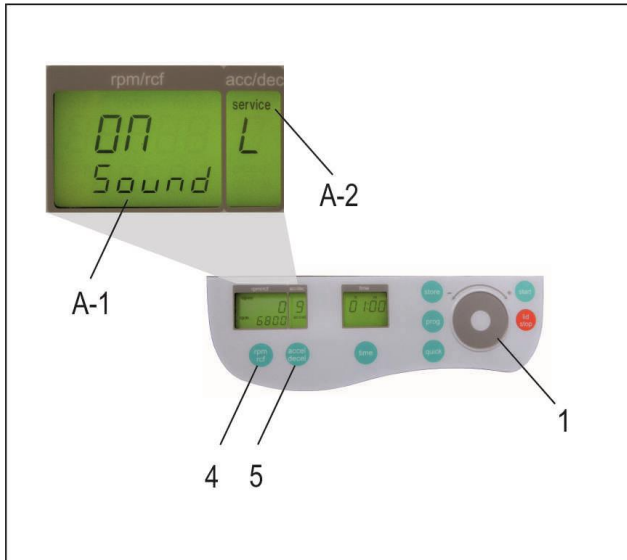

Figure 6
- All changed settings must be confirmed by the key, "start" (9). A confirmation screen will appear with the word, "store", in the display "rpm/rcf" (A-1) - Only then the pre-selections are valid!
Proceed as illustrated, under point 3.2, to enter this program mode, press the key; "accel/decel" (5). In the display, "accel/decel" (A-2) flashes the word, "service". Select the letter, "L" with the control field (1). As a result, appearing in the display "rpm/rcf" (4), are the words, "On Sound". By pressing the key, "rpm/rcf" (4), the word "On" flashes, and the sound can be switched off with the control field (1), (see Figure 6).